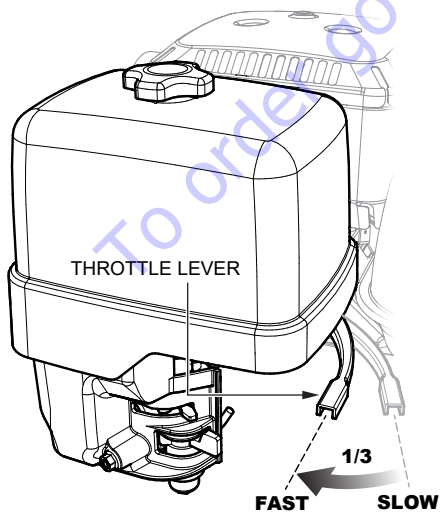

Figure 9. Throttle Lever (1/3 Start Position)
3. Move the throttle lever (Figure 9) away from the slow position, about 1/3 of the way toward the fast position.